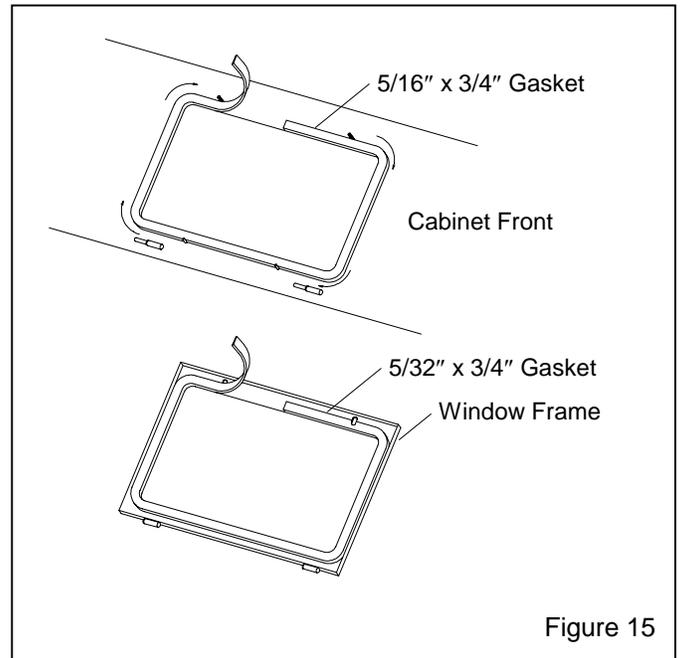

Figure 15
### 7.4 Window Gasket Replacement, Figure 15
**7.4.4** Peel a short section of adhesive backing from the 5/16" thick strip gasket, and adhere the gasket to the center of the top edge of the window opening as shown in Figure 15. Peel additional backing as needed, and work the strip around the radius of each corner, pressing it tightly to bond. Trim the gasket to fit and compress the ends to seal.